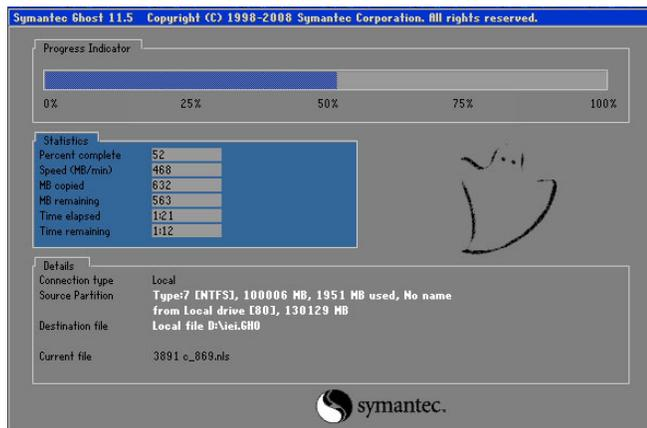

Figure D-19: Creating Image
Step 10: The Symantec Ghost starts to create the factory default image (Figure D-19).